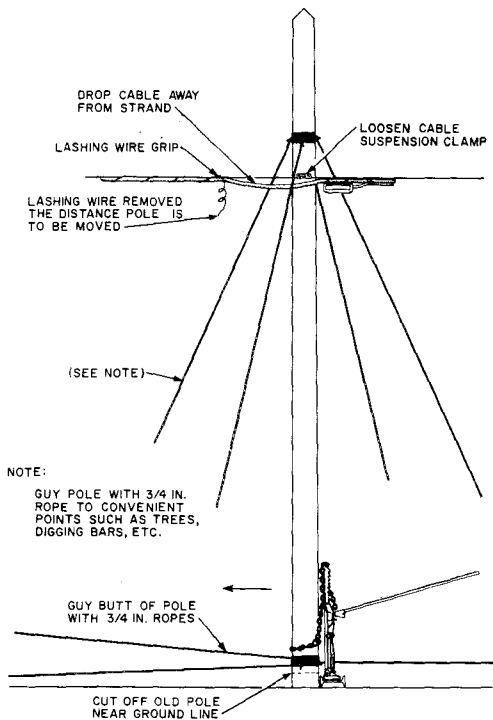
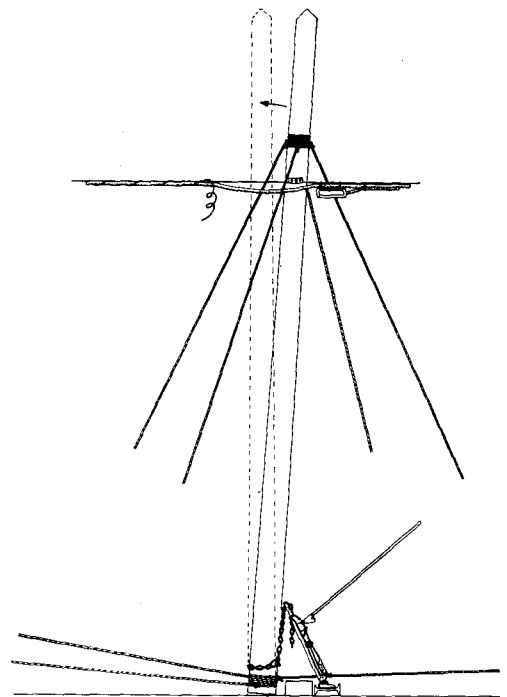

Fig. 7—Pole Jack Support
Fig. 8—Pole Jack Move
- (3) Set up the pole jack on the opposite side toward which the pole is to be shifted. Before fastening the chain to the jack extend the rack bar sufficiently to enable setting the pole on the ground after it has been cut and shifted away from the butt (Fig. 7).
- (4) Apply a strain with the jack and saw through the pole near the ground line.
- (5) Shift the pole off the butt and slack off with the jack (Fig. 8) to set it on the ground. During this operation a workman attending the snubbing rope at the base of the pole can adjust the slack so the pole can be set down at the desired location.
- (6) Pull the top of the pole to a vertical position and adjust the rope guys to equal tension.
- (7) Jack out the pole butt.
- (8) Set the new pole by using pike poles or by using the old pole as a gin pole.